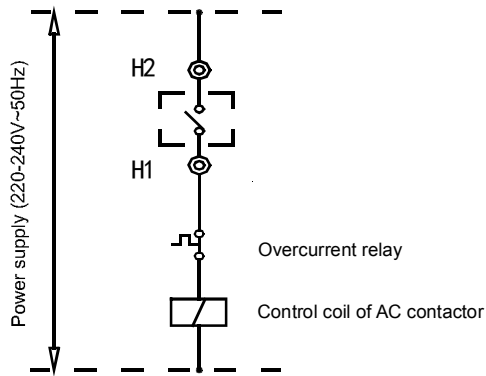

Fig. 5-2
- Step 10. Connection of control wires of auxiliary electric heaters: the control wires of AC contactor of the auxiliary electric heater must pass the connection terminals H1 and H2 of the main unit, as shown in Fig. 5-2.